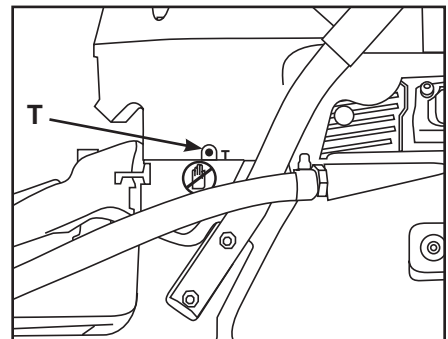

Figure 2
- **T – Idle Screw** (Figure 2) is adjusted so that the engine idles smoothly but the clutch does not engage.